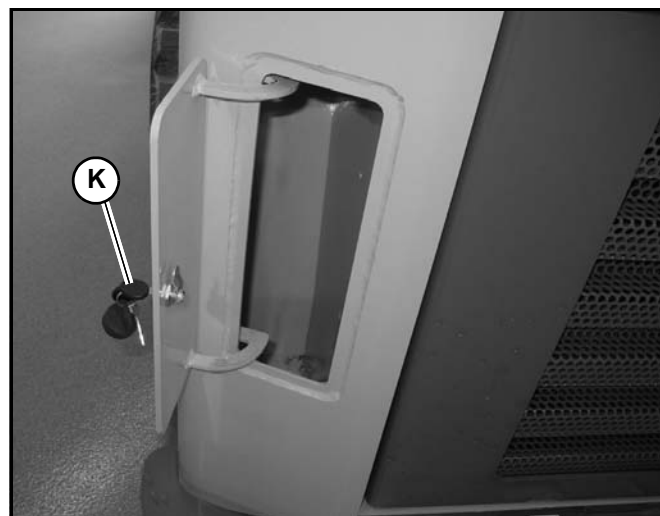

**Fig. 116 – Tie-Down Point Identifier**
- c. Securely strap the machine at the tie-down points (Fig. 116) to the platform. Use only belts or chains of sufficient capacity.